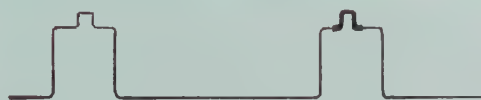

Figure 2-7. Phase-Shift Measurements
8. Divide the distance measured in step 6 by the distance measured in step 7 and multiply the quotient by 360° . The resulting product is the phase difference between the two sine waves. See Figure 2-7.